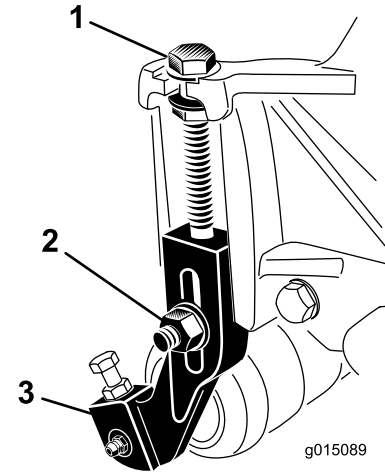

Figure 17
- Loosen locknuts securing height-of-cut brackets to cutting unit side plates (Figure 17).